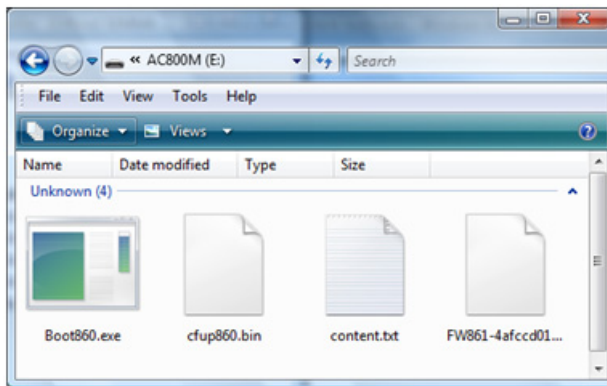
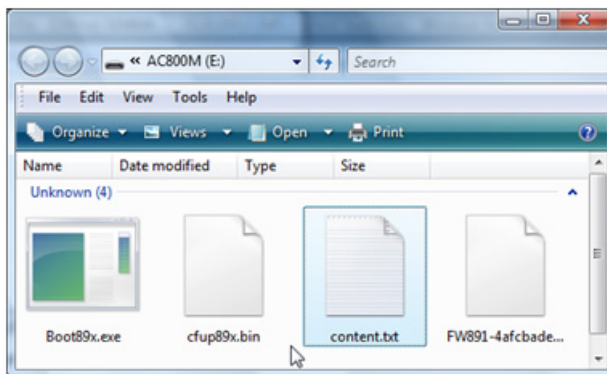

Figure 99. Firmware image files on CF card
Figure 100. Firmware image files on SD card
- There will be four files on the card (see Figure 99 for CF card and Figure 100 for SD card). If the media card is CF, then it has been formatted as FAT.